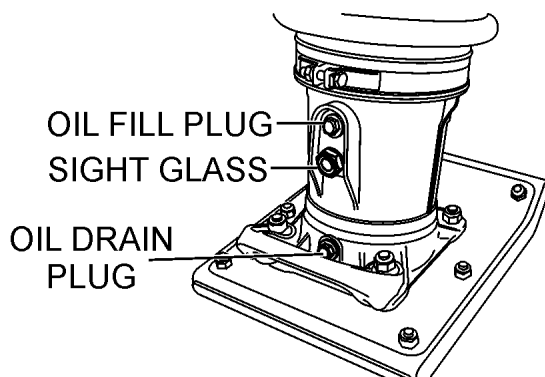

Figure 3. Foot Housing Sight Glass
5. Check the oil level through the oil level sight glass (Figure 3) at the rear of the tamper foot.
6. If oil is not visible, add 10W-30 SE, SF or higher grade motor oil into the oil fill plug opening (Figure 3). The bath contains approximately 0.85 qt. (0.80 liter).